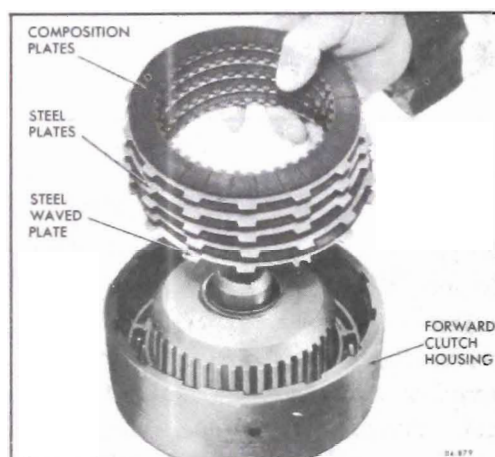

Figure 76-665
10. Oil and install five (5) radial groove composition, four (4) flat steel clutch plates and one (1) waved steel plate (plate with "U" notches), starting with waved steel and alternating composition and steel plates. See Figure 76-665.